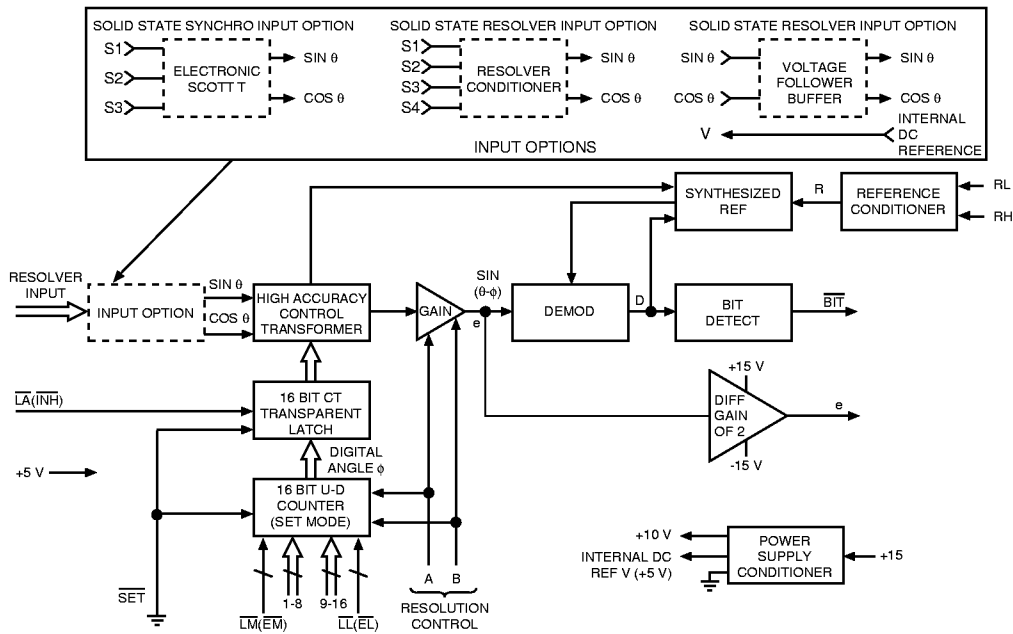

FIGURE 14. CT MODE BLOCK DIAGRAM
FIGURE 14 illustrates a block diagram of the Control Transformer (CT) mode. The procedure to enable this function is to disable the up-down counter by setting  $\bar{S}$  (pin 30) to logic "0" and using the digital output lines (which are bidirectional) as digital inputs.